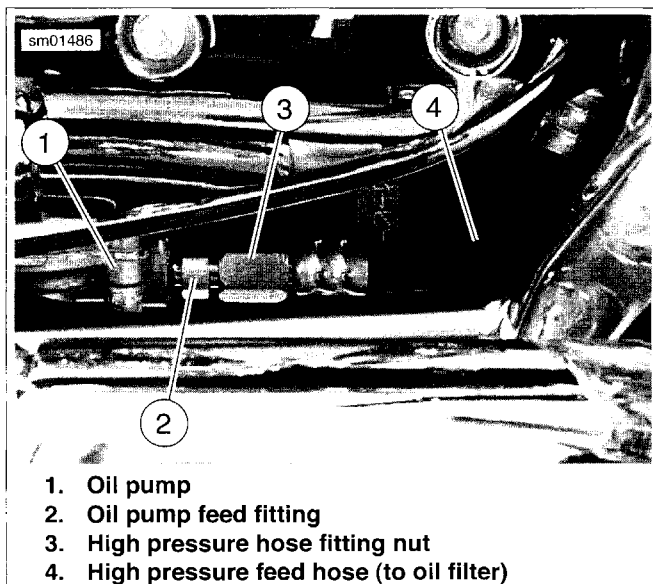

Figure 3-166. Oil Pump Feed Hose
See Figure 3-166. Do not remove oil pump feed fitting (2) from the pump (1). Hold oil pump feed fitting and loosen large high pressure hose fitting nut (3). Then remove high pressure hose (4) from oil pump feed fitting.
2. See Figure 3-166. Remove high pressure feed hose (4) from oil pump (1).
3. Install hoses on oil pump. Attach oil tank feed hose to hose fitting (5) with **new** clamp. Attach oil tank vent hose to elbow fitting (13) with **new** clamp.
4. See Figure 3-166. If oil pump feed fitting (2) was removed for any reason, install fitting in oil pump (1) cover. Tighten to 100-120 **in-lbs** (11.3-13.6 Nm).
5. If high pressure feed hose (4), was removed completely, install end opposite high pressure fitting nut (3) in crankcase. Tighten to 60-90 **in-lbs** (6.8-10.2 Nm).
6. Install high pressure feed hose fitting nut (3) onto feed fitting on front of oil pump. Hold oil pump feed fitting with a wrench and tighten high pressure hose fitting nut to 85-105 **in-lbs** (9.6-11.8 Nm).